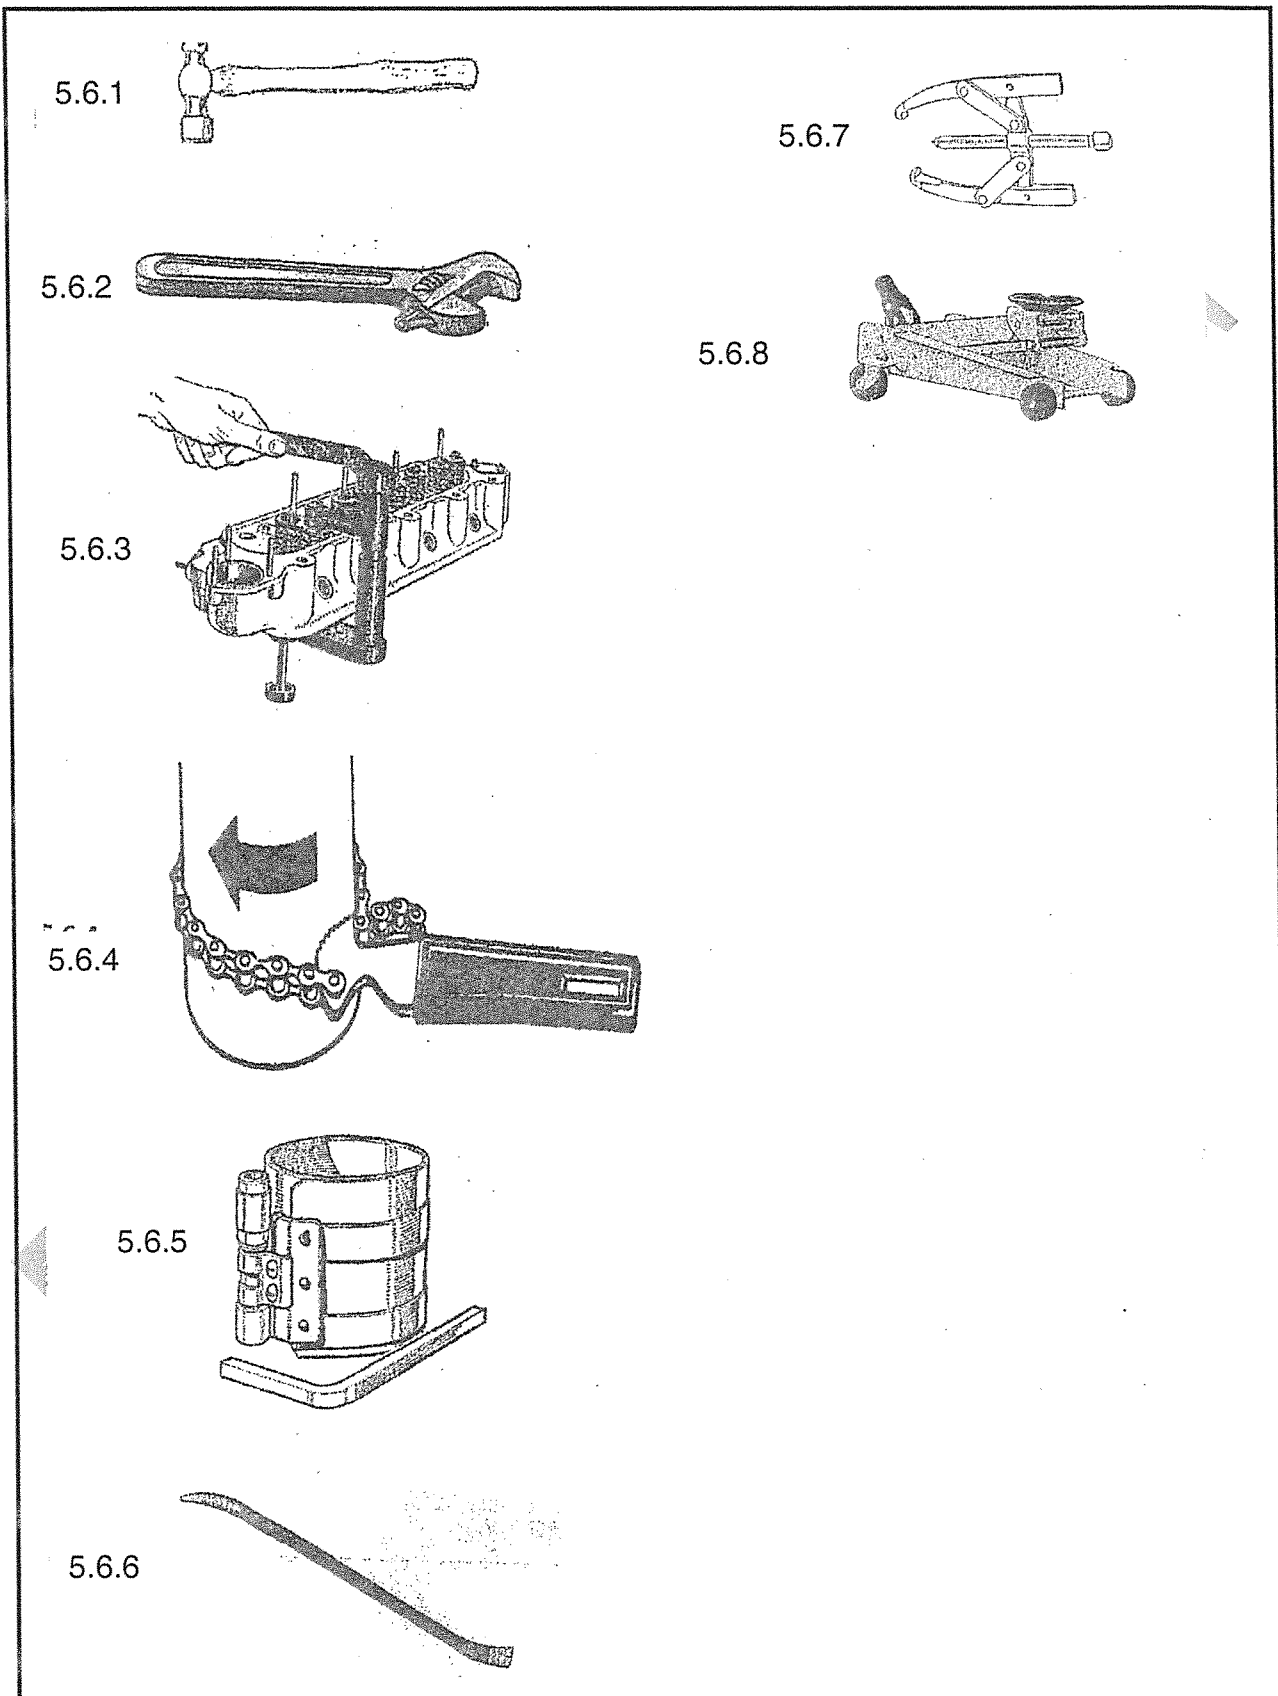

FIGURE 7
5.6 FIGURE 7 Diagram SHEET 4 (attached) shows various tools used in the workshop.